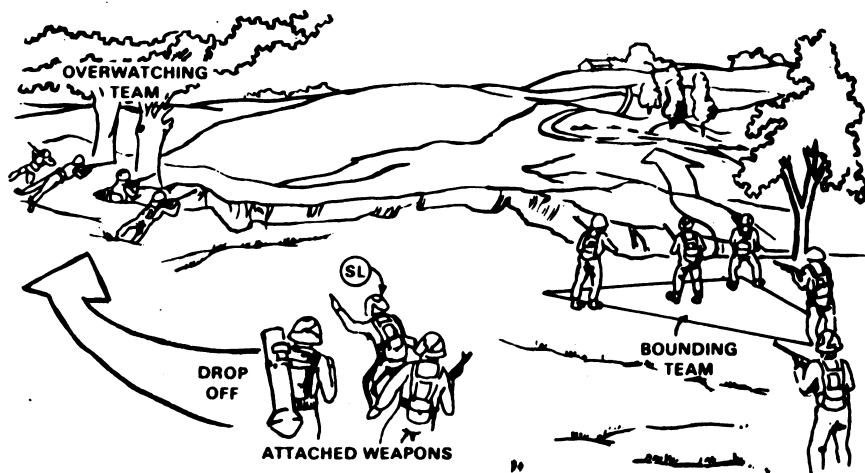

Figure 3. Bounding overwatch technique.
c. Use the **BOUNDING OVERWATCH** technique when contact is expected. One fire team advances while the other team is in a good position ready to suppress enemy fires. The key to this movement is the proper use of terrain. **ALL MEN IN THE SQUAD MUST MAKE USE OF ALL COVER AND CONCEALMENT.** The chance of exposure to the enemy must be avoided. A bound is normally not more than 100 to 150 meters forward of the overwatch team (fig. 3).